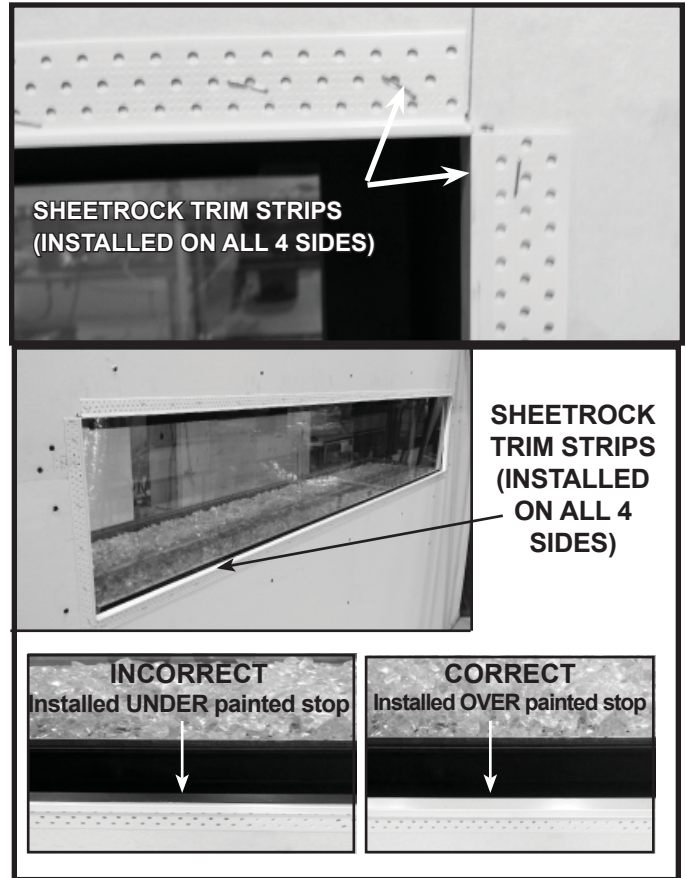

Figure 10.4. Install Sheetrock Trim Strips
2. Install sheetrock trim strips as shown in Figure 10.4 on all sides of appliance. Sheetrock trim strips are included with the appliance. Cut the strips to the required length and install them using staples. See Figure 10.4 for placement of trim strips.